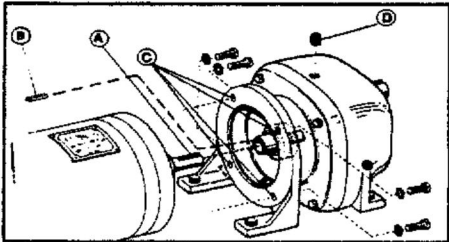

Figure 2 - Attaching the Motor
4. Attach motor to speed reducer. (See Fig. 2.):
- b. Insert short key (B in Figure 2) into reducer shaft sleeve. Line up keyway in 1/2" diameter motor shaft (A in Figure 2) with keyway in reducer shaft sleeve. Carefully insert motor shaft until C face of motor fits into place against reducer, with four mounting holes in reducer (C in Figure 2) lined up with tapped holes in motor C face.